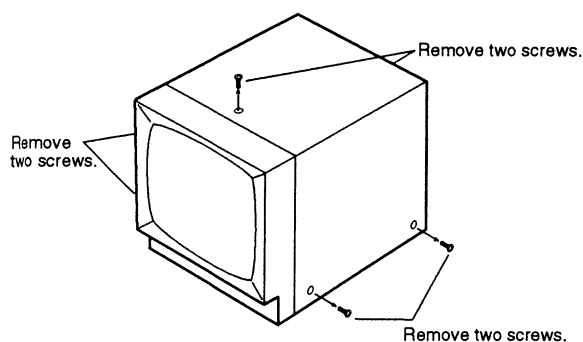

Fig. 2-1
- Referring to Fig. 2-1, remove six screws fixing the Upper Cover and remove the Upper Cover.